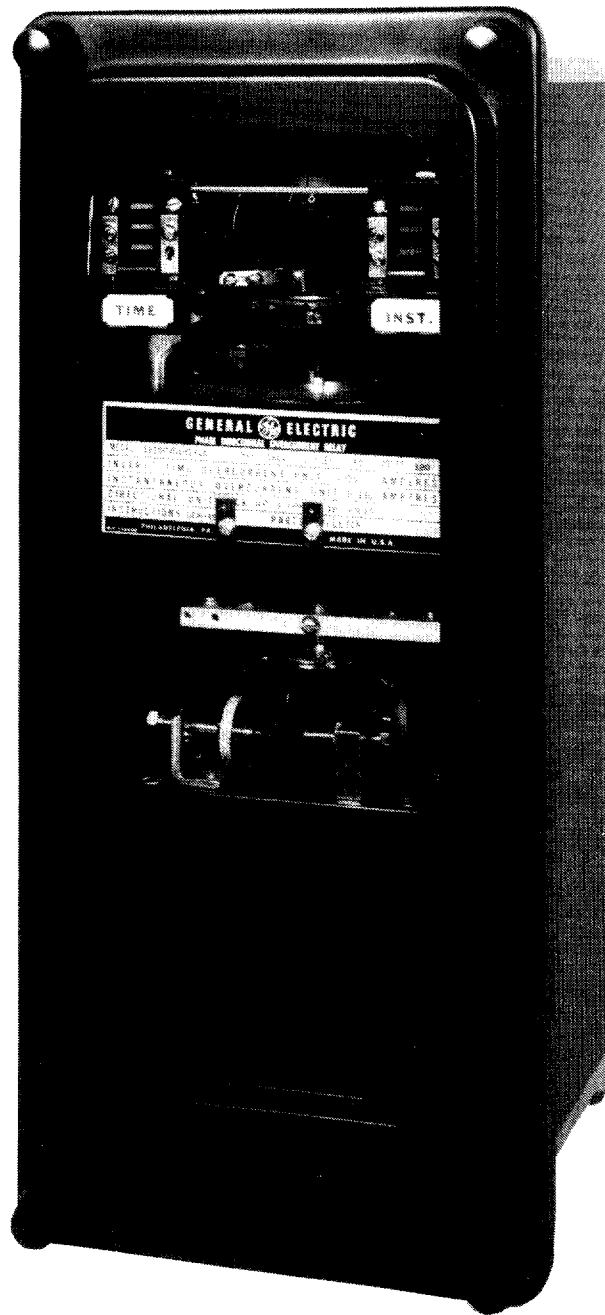

Figure 1 (8043462) Type IBCV51M(-)Y1A Relay in Case (Front View)
- Figure 1 (8043462) Type IBCV51M(-)Y1A Relay in Case (Front View)